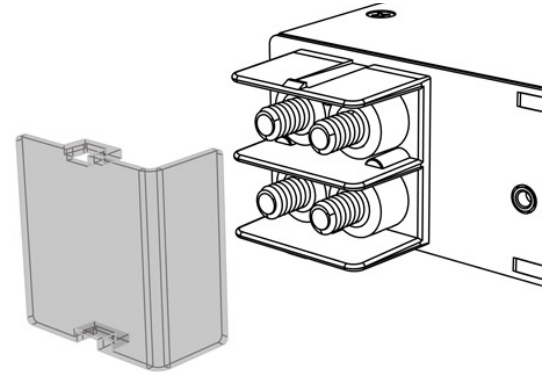

Figure 11. Input Safety Covers
- Step 1.** Remove the plastic input safety covers by pulling away from panel (see Figure 11).